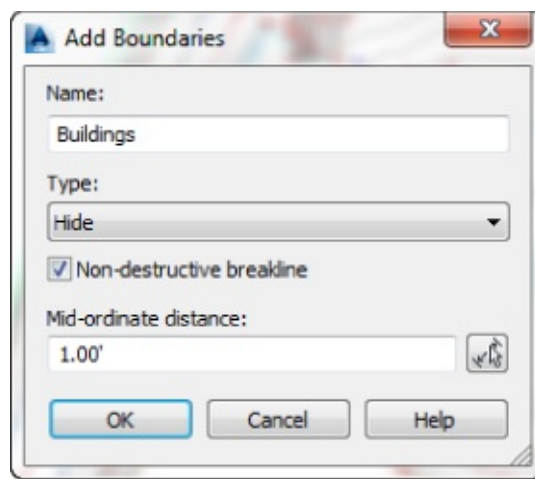

Figure 4.11 Adding buildings as non-destructive, hide boundaries
20. Name the boundary **Buildings** and change Type to Hide. Make sure that Non-destructive Breakline is checked, as shown in Figure 4.11, and click OK.